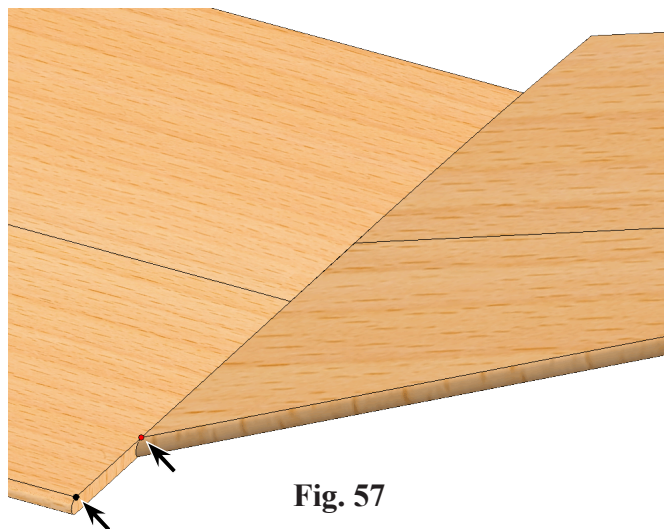

Fig. 57
Step 10. Click **top vertex of Wing Inboard root** and **top vertex of Wing Outboard**, **Fig. 57**.